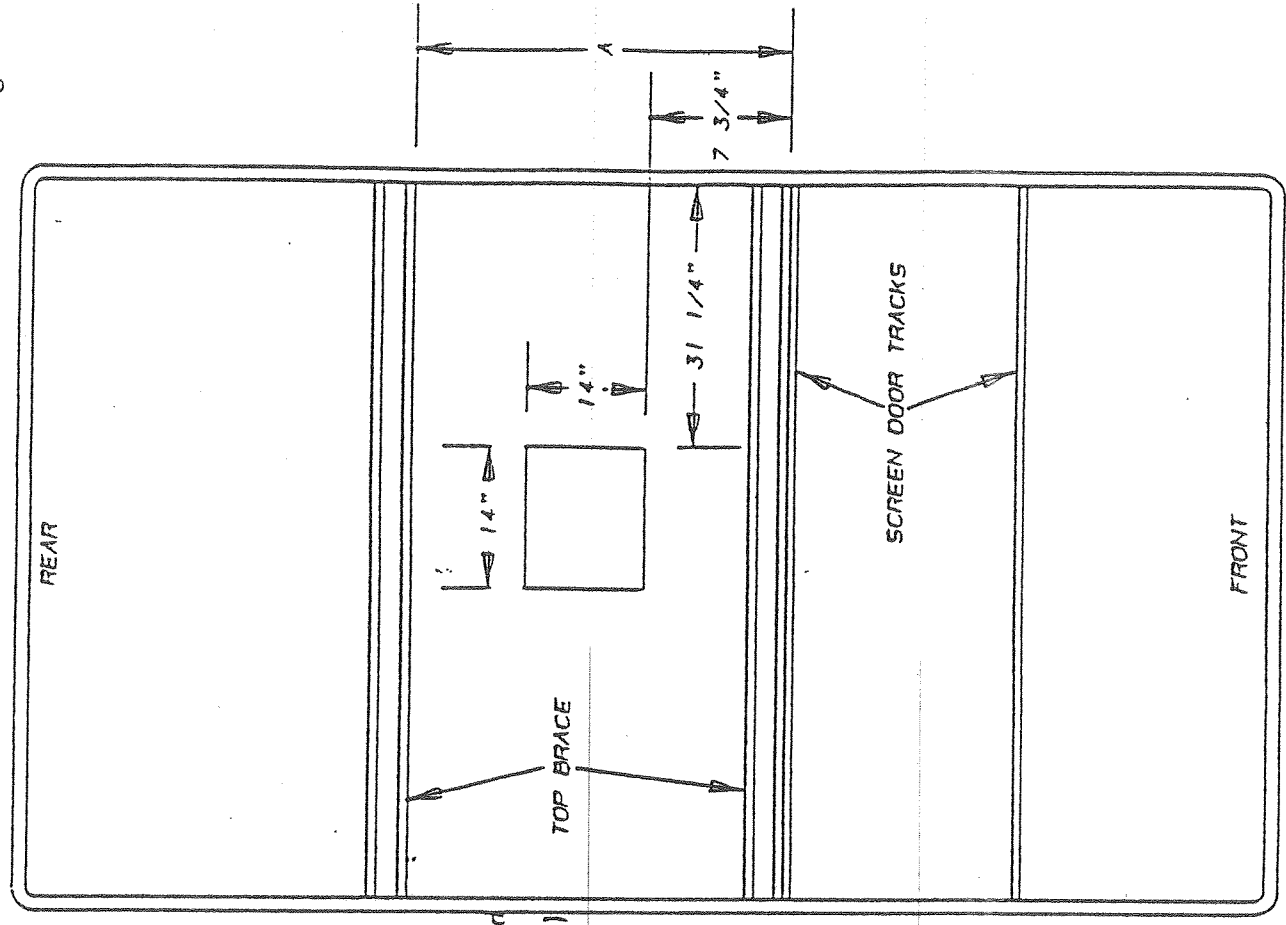

FIGURE 3
1. Before proceeding with any cutting or drilling, carefully study the dimensions on Figure 3. Note that the rear screen door track is used as the starting point for all measurements.
10. Locate the rear top brace according to the ceiling assembly used. See Figure 3, dimension A. The 6759 ceiling assembly cannot be used on the Columbia or Roanoke models.
12. Carefully mark the air conditioner cutout opening on the top interior as shown in Figure 3.